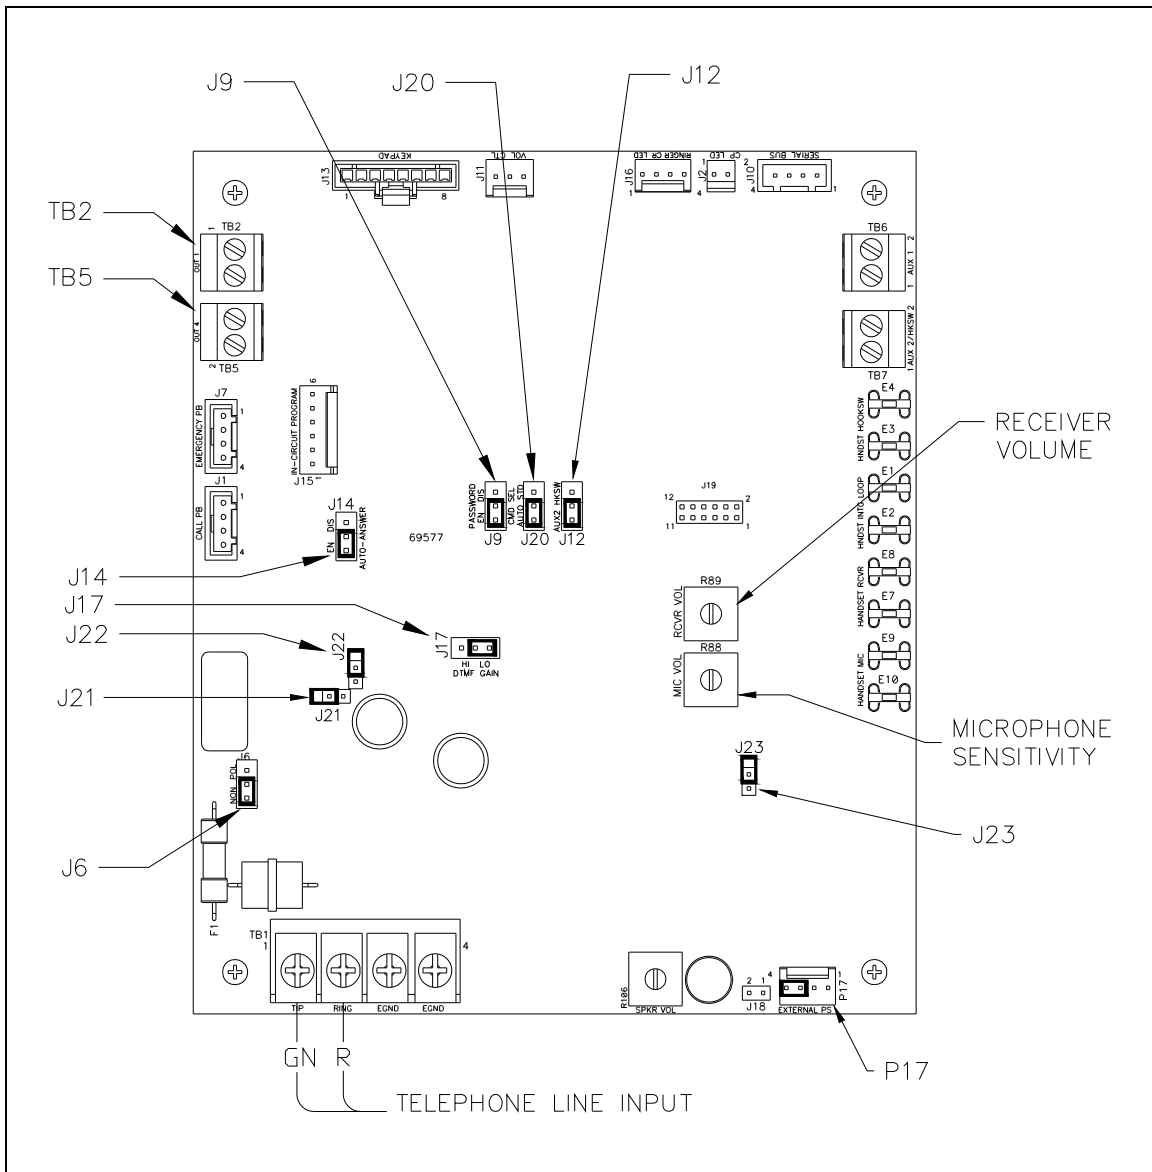

Figure 7. Main PCBA
3. Connect the incoming subscriber line or the telephone line suppressor (if applicable) to terminal block TB1 on the main PCBA (see Figure 7).
The following sections explain the PCBA hardware configuration options and identify the necessary jumper settings to enable or disable each option. GAI-Tronics recommends reading the following sections to select the desired parameters before making changes. Keep a record of the settings. Specific hardware configurations control the following options (see Figure 7 on page 8 for the jumper locations).
Each telephone includes two isolated solid-state switches capable of switching a maximum of 48 V dc, 125 mA or 28 VRMS ac, 80 mARMS. Terminal block TB2 (OUT1) and TB5 (OUT4), on the main PCBA, provide connections for the auxiliary outputs (see Figure 7).
Output 1 connects to terminal block TB2, on the main PCBA (see Figure 7). This output activates at the start of an incoming call and extinguishes upon lifting the handset from its cradle (call answered). This output activates with a cadence of 2 seconds ON followed by 4 seconds OFF during this time interval.
To connect the power, remove the jumper from header P17 pins 3 and 4 and plug it into the adjacent J18 header (see Figure 7).